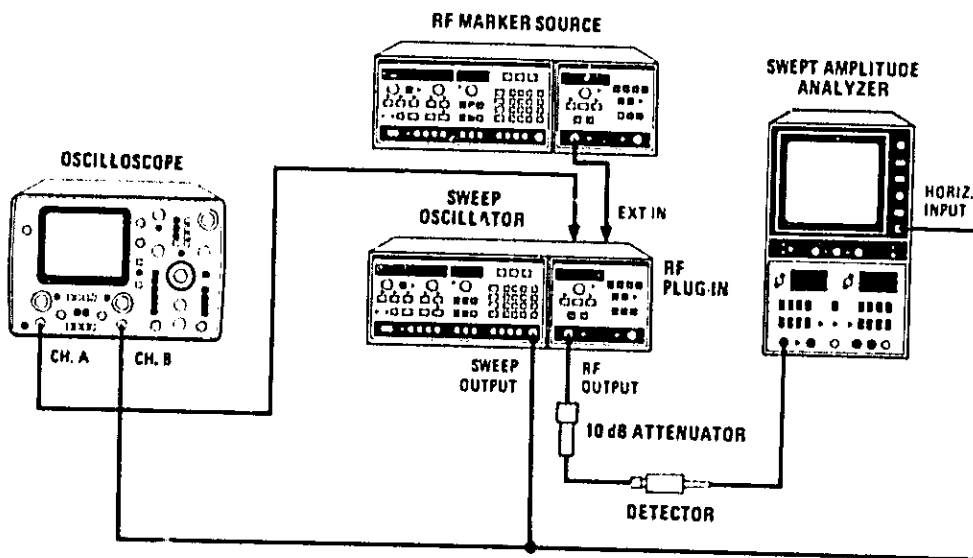

Figure 5-39. External Marker Adjustments Test Setup
1. Connect equipment as shown in Figure 5-39. Set external marker source to a selected marker frequency. Set power level between  $-10$  and  $+10$  dBm.